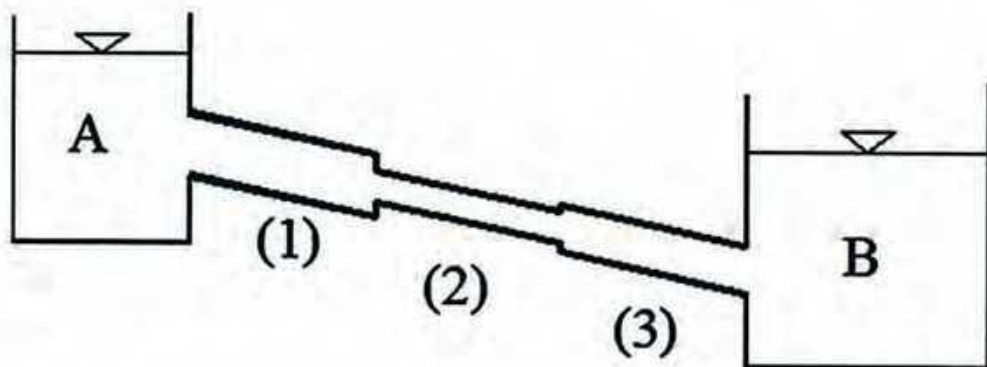

Figure 8(a).
8. (a) A fluid is flowing in a series of pipes which is shown in figure 8(a). Determine total head loss for flowing liquid from A to B. Consider both major and minor loss. Use moody diagram for friction factor. Given that velocity in pipe 1 is 1.50 m/s and $k_c=0.04$. Use table 8(1) for k_c . Pipe properties are given as below: (20)